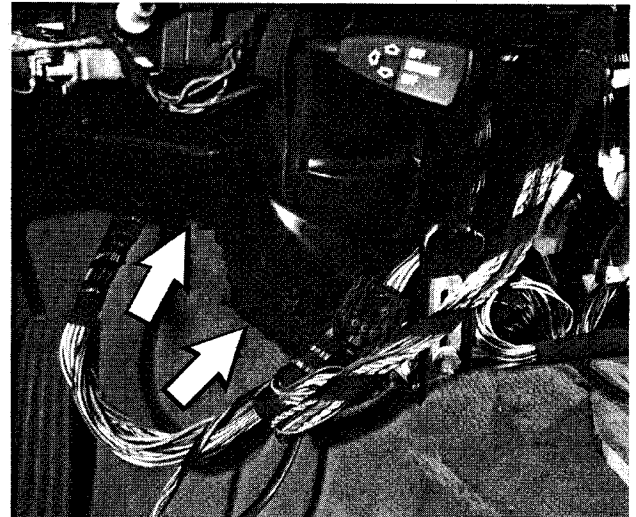

Fig. 50. Left footwell ventilation duct (**arrow**).
4. Unfasten evaporator sensor electrical harness connector and pull out sensor from left side of heater box. See Fig. 50.
2. Remove left footwell ventilation duct by removing retaining rivet in bottom of duct. Pull it down and away from heater box. See Fig. 50.